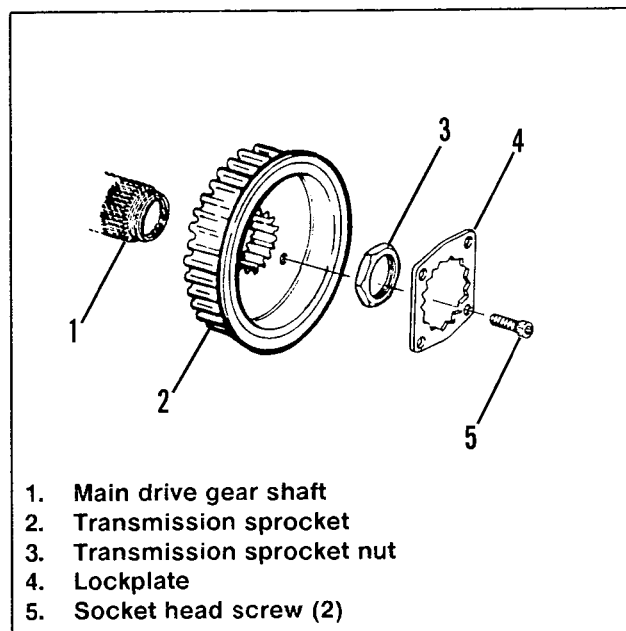

Figure 4. Transmission Sprocket Lockplate
See Figure 4. Starting in mid-June (transmission No. 91168061), all 1340cc engines will be equipped with a new style lockplate (4) for the transmission sprocket (2). This change will also affect Sportster transmissions beginning with the 1992 model year. The lockplate is shaped to fit around the six corners of the transmission sprocket nut (3). The lockplate can be rotated to a number of positions, and can be positioned with either side facing the sprocket, to allow for easy alignment of two of its four drilled holes (diagonally opposite) with the sprocket's two tapped holes. The lockplate is secured to the sprocket by two hex socket head screws (5). The lockplate offers increased sprocket nut retention; it will be furnished with all new 1340cc sprocket parts orders.